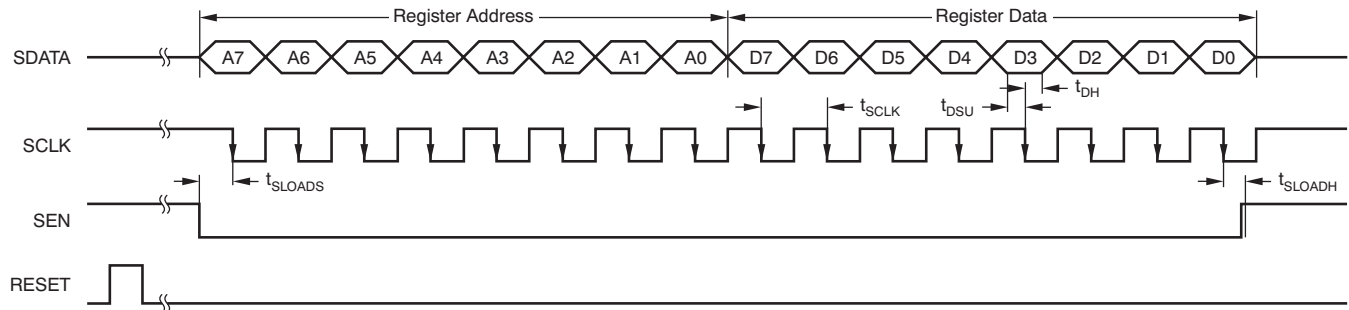

Figure 9. Serial Interface Timing
1. Either through hardware reset by applying a high pulse on the RESET pin (of widths greater than 10 ns), as shown in Figure 9; or